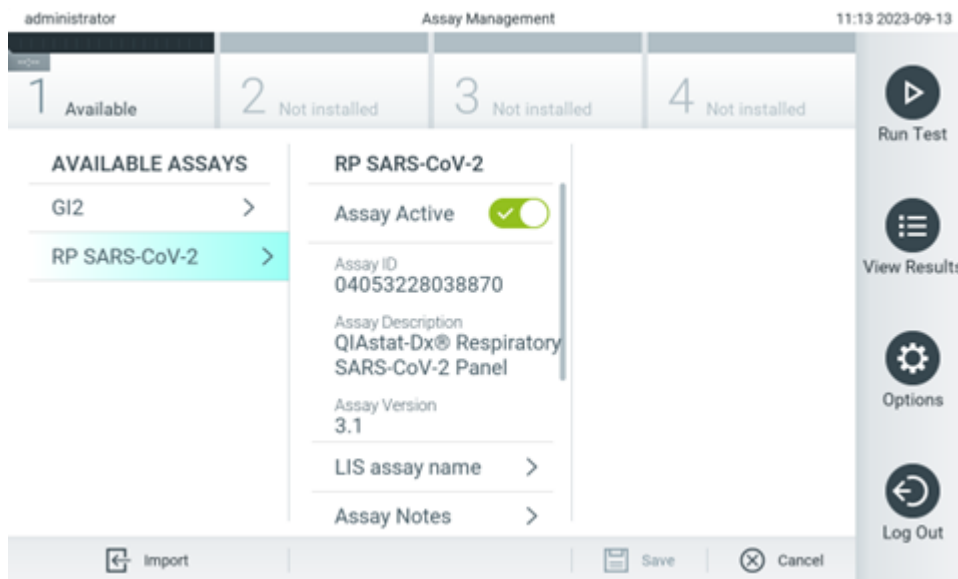

Figure 57. Managing available assays.
1. Press **Options > Assay Management** to access the Assay Management screen. The available assays are listed in the first column of the content area (Figure 57).